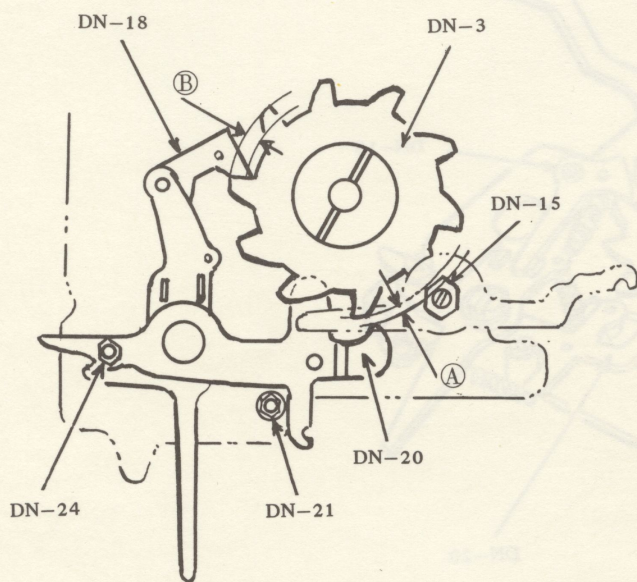

Fig. 14
- (1) Adjust with DN-21 (Eccentric Screw) to obtain 0.2 to 0.4 mm of clearance (A) between DN-20 (Half Space Ratchet Unit) and DN-3 (Space Ratchet Wheel). (Fig. 14)
- (2) Adjust with DN-24 (Eccentric Screw) to obtain 2.1 to 2.3 mm of interlocking deepness (B) between DN-18 (Space Ratchet) and DN-3.
If the position of DN-20 is changed, the position of DN-18 would be changed, resulting type skipping or double typing, consequently the degree of the depth of interlocking between DN-18 and DN-3 should be confirmed when DN-20 is adjusted. (Fig. 14)